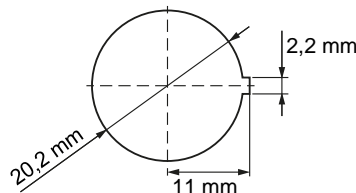

Figure 24: Hole for the control unit
- Drill a hole $\varnothing = 20.2$ mm in the dashboard for the control unit (see Figure 24).